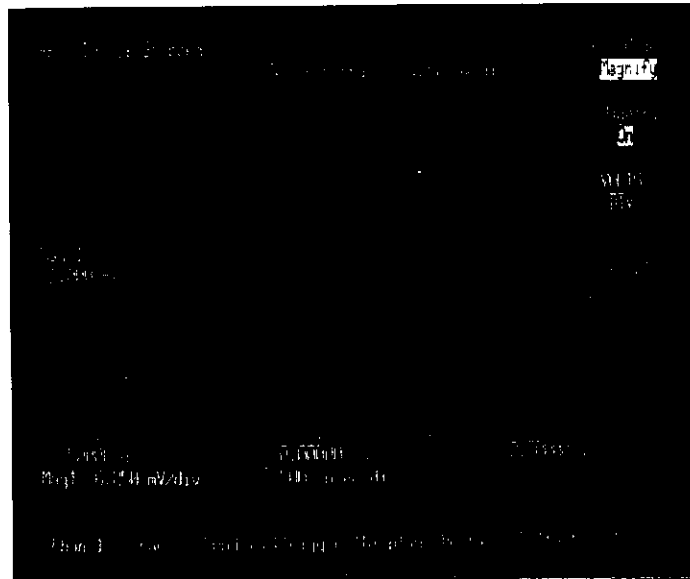

Figure 7-21. Magnify Using Normal Mode
7. Turn magnify on (see figure 7-21)